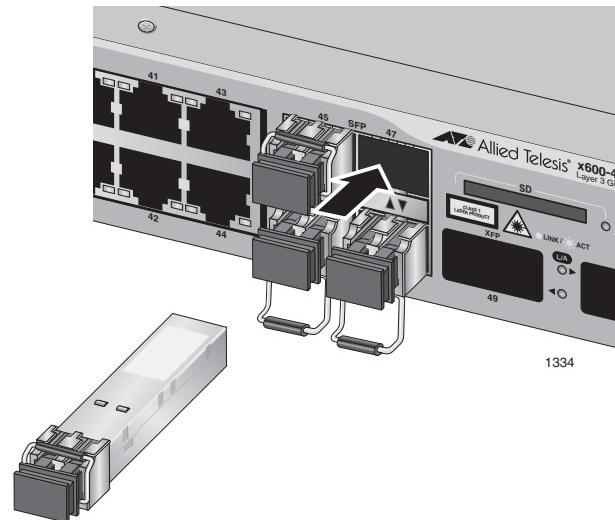

Figure 25. Positioning SFP Handles on the x600-48Ts and x600-48Ts/XP Switches
6. For the x600-48Ts and x600-48Ts/XP switches, verify that handles on the top two SFPs are in the up position and the bottom two SFPs are in the down position as shown in Figure 25.